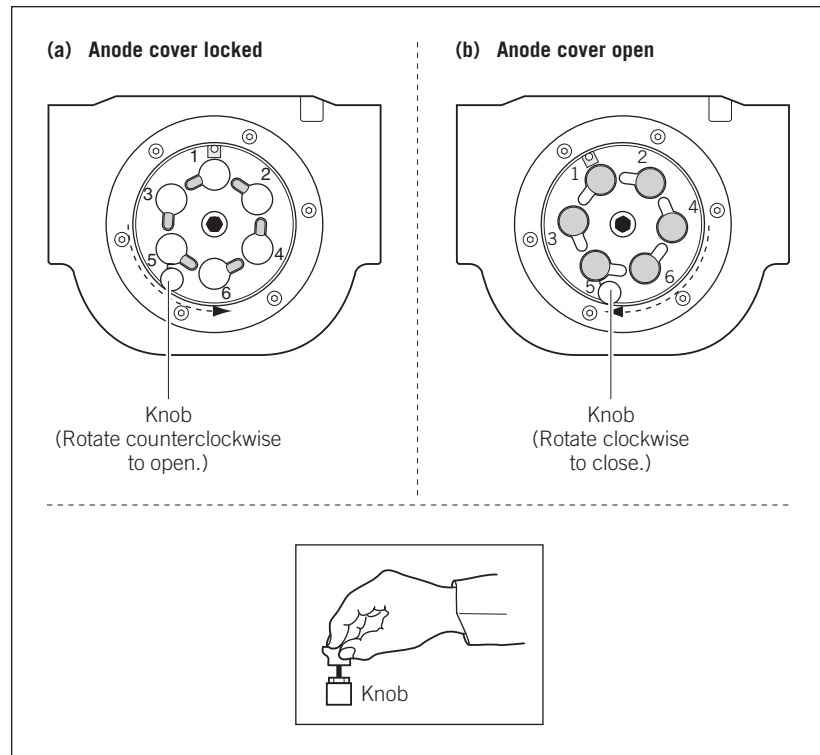

Figure 7-8. The anode cover (top view): (a) cover locked and (b) cover open.
4. Grasp the number 6 window holder and the handle of the corresponding anode plug (see numbering in figure 7-8). First pull up on the plug and then the window holder to free the array from the window holder platform and the anode cover.